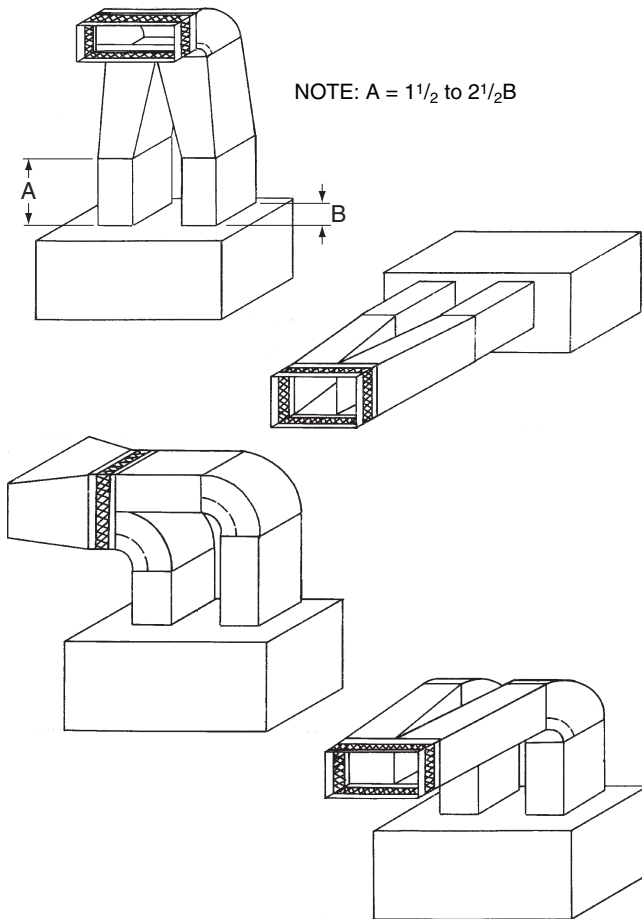

Fig. 9 — Typical Fan Discharge Connections for Multiple Fan Units
Step 3 — Install Ductwork — The VAV units must use a “pair of pants” configuration as shown in Fig. 9. Refer to the Carrier System Design Manual or ASHRAE (American Society of Heating, Refrigerating and Air-Conditioning Engineers) standards for the recommended duct connection to unit with 2 fans.